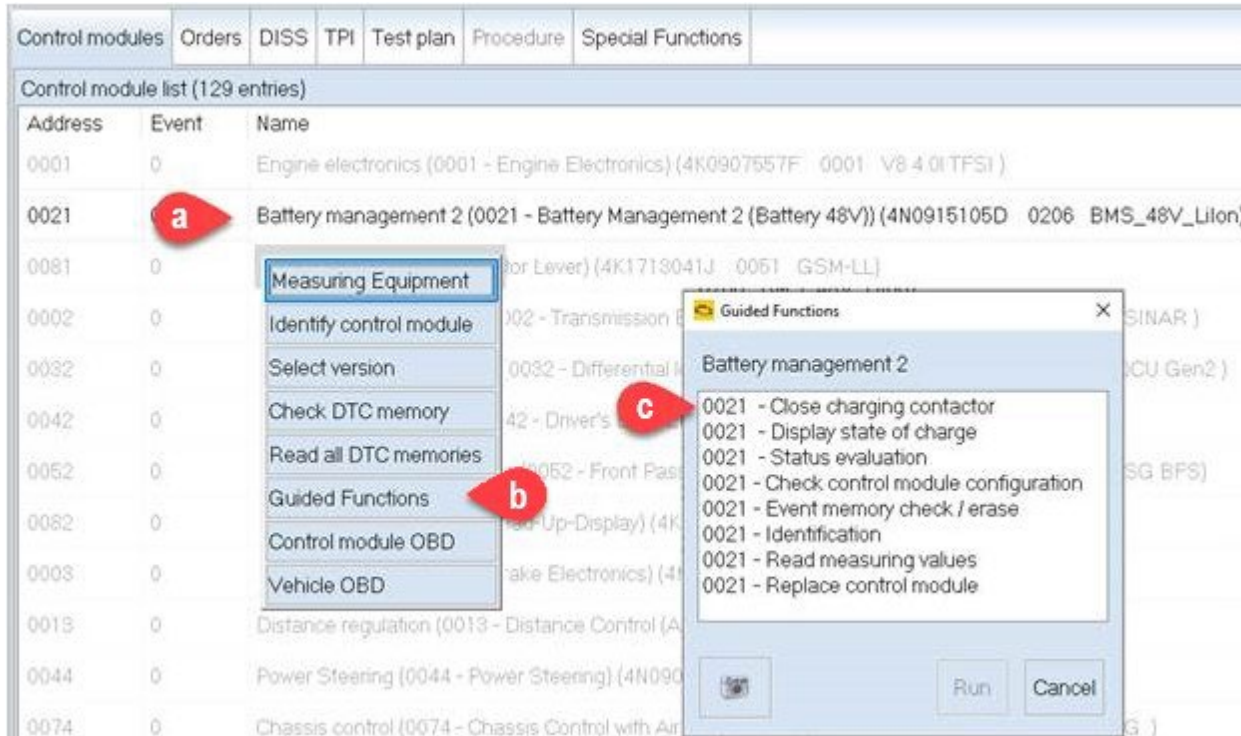

Figure 1: Use the steps below to access the test plan.
3. In ODIS GFF run test plan “0021 – Close charging contactor” (Figure 1) to set the adaptation for protection relay closed, do not exit the test plan once the adaptation has been set.